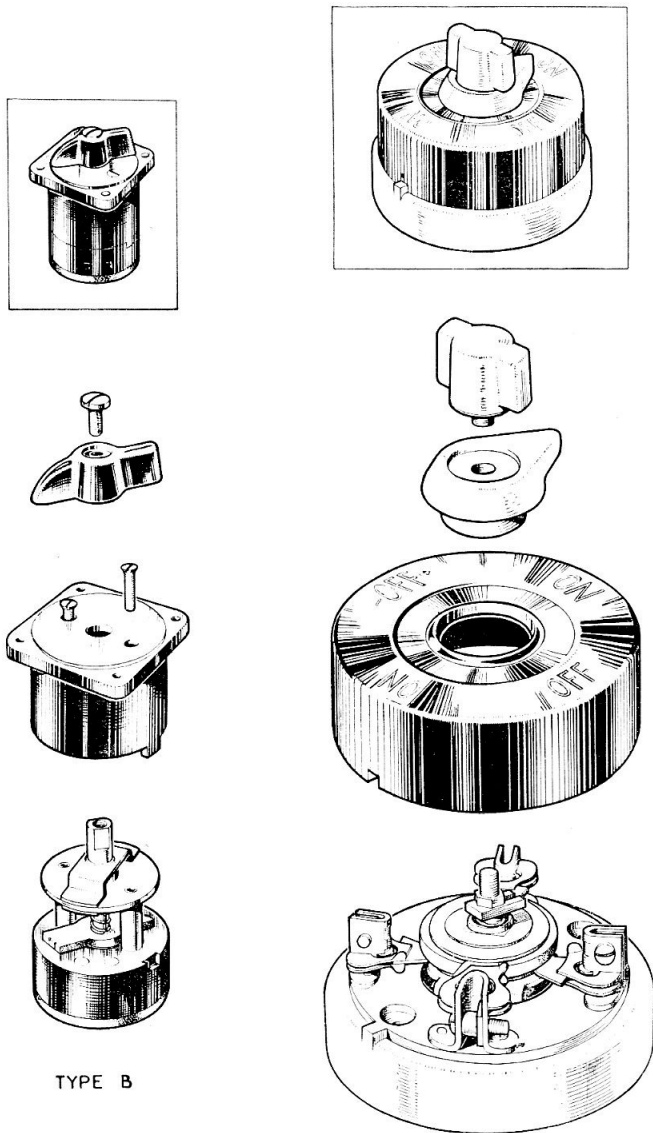

Fig. 1. Rotary switches, Type B, and TOK Type 215
2. The Type B rotary switch (fig. 1) is single-pole, 3-way, with six terminals, three of which are linked. As the operating knob is moved to one of the three positions, it rotates the central spindle, which moves the contact plate over the inserts to make the required connections.
3. The Type B, 7 amp. rotary switch is a single-pole, 4-way switch, with eight terminals, four of which are linked. It is physically similar to the Type B rotary switch illustrated in fig. 1.
4. This is a double-pole rotary switch with four terminals. It has a clockwise action only, with two ON positions and two OFF positions for each revolution of the operating knob. As each position is selected, two contact plates, one above the other, each with two contact blades, alternately engage and disengage with corresponding fixed contacts mounted on the porcelain base. The operating knob, also of porcelain, is strongly spring-loaded, and the mechanism is enclosed in a Bakelite cover. The right-hand view in fig. 1 shows a general view of the switch, and also gives details of the mechanism.